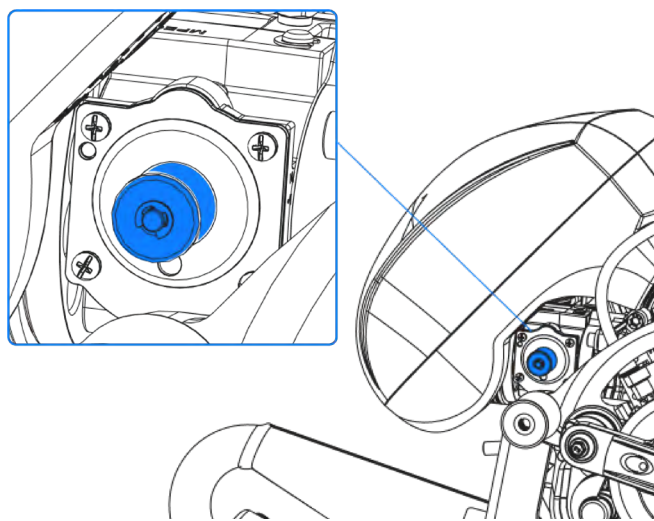
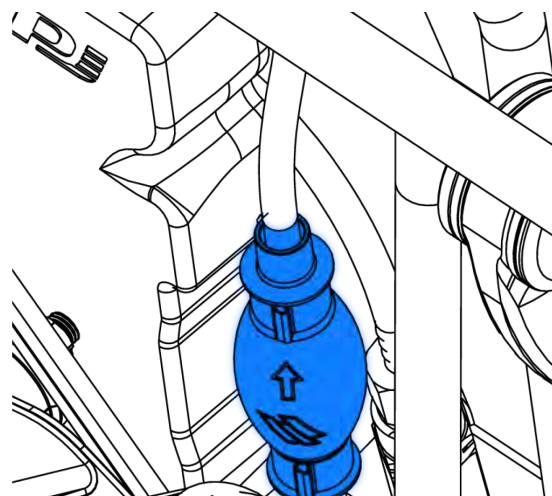

FIGURE 3.0
FIGURE 3.1
1. Push in the Priming Spring Button (Figure 3.0) located on the carb and squeeze the Priming Bulb (Figure 3.1) to pull the fuel into the system.
3. Squeeze the Priming Bulb one final time to let a small amount of fuel into the carburettor (Figure 3.1).